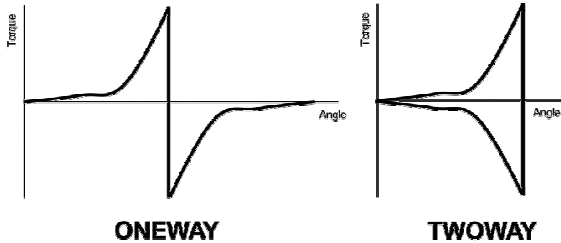

Figure 12 – Angle Count
Set the Angle Count to ONEWAY to allow for angle measurements to be positive for both clockwise (CW) and counter-clockwise (CCW) movements. Set the Angle Count to TWOWAY to allow for positive and negative angle measurements. Figure 12 illustrates the difference between ONEWAY and TWOWAY Angle Counts.